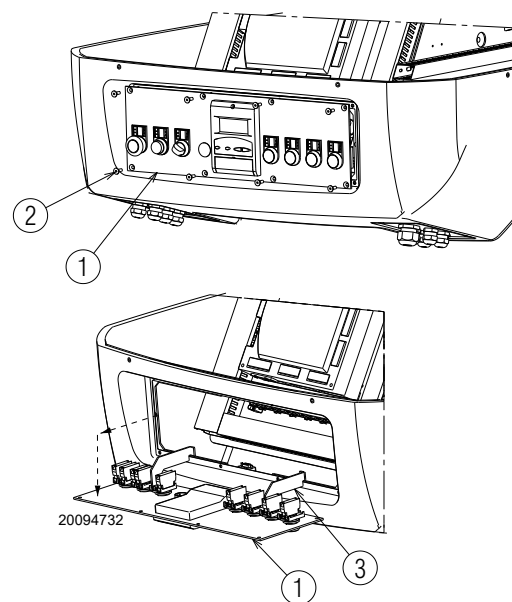

Fig. 35
- unscrew the screws 2) of the control panel 1)(Fig. 35);
- extract the control panel 1) and turn it 90°, hooking it with the brackets 3) in the profile of the electrical panel as shown in Fig. 35;